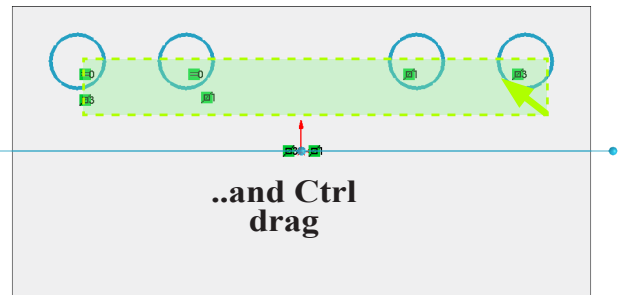

Fig. 30
Step 12. And **Ctrl drag** a selection to **select all circles**, **Fig. 30**.